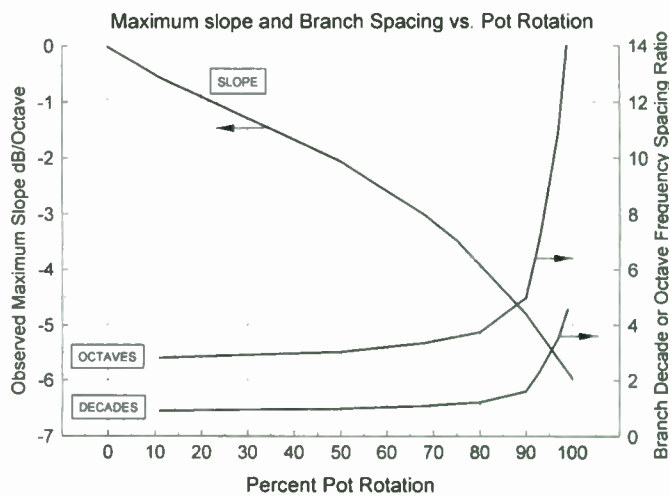

FIGURE 6: Design guide for selecting pot rotation and branch frequency spacing for any desired slope from -1dB to -5dB per octave.
Figure 6 is a kind of master guide for the required design calculations, because it summarizes the pot rotation and useful bandwidth ratio for any desired slope. For example, notice that the -2dB/octave point shows 50% pot rotation and about a one-decade spacing between ladder sections.
Step 1 is to consult Fig. 6 and pull off